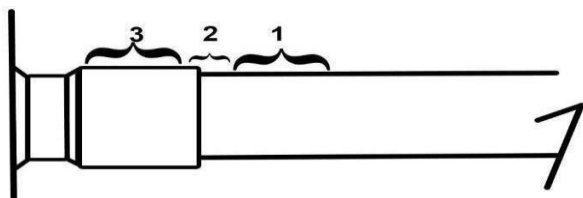

Figure 2 - Scroll Tube Brazing
- Apply heat in Area 1. As tube approaches brazing temperature, move torch flame to Area 2. See Figure 2
- Heat tube uniformly in Area 1, moving slowly to Area 2. When joint reaches brazing temperature, apply brazing material. (See Figure 2)